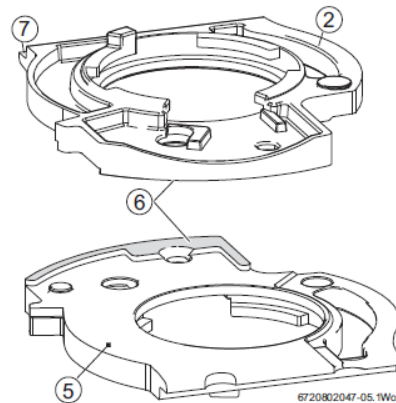

Fig. 104 Clamping plate detail
- ▶ Refer to figure 104 for detail of the clamping and mating surface [6]